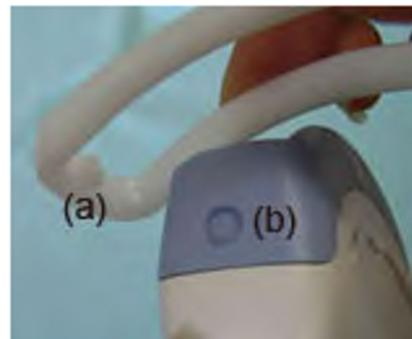

Figure 9-28. Probe/Bracket Alignment 1
4. Fit a convex of the biopsy bracket (Figure 9-28, a) in a concave of the probe (b).